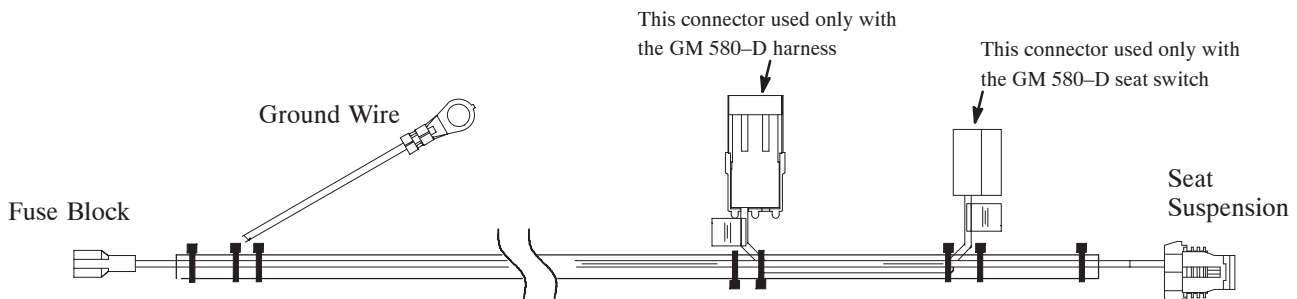

Figure 5
11. Connect the air ride wire harness to the traction unit (Fig. 5) as follows:
- Plug the air ride harness spade terminal into the innermost spade terminal of the fuse block (Fig. 5). Insert a 10 amp. fuse into the corresponding fuse slot.